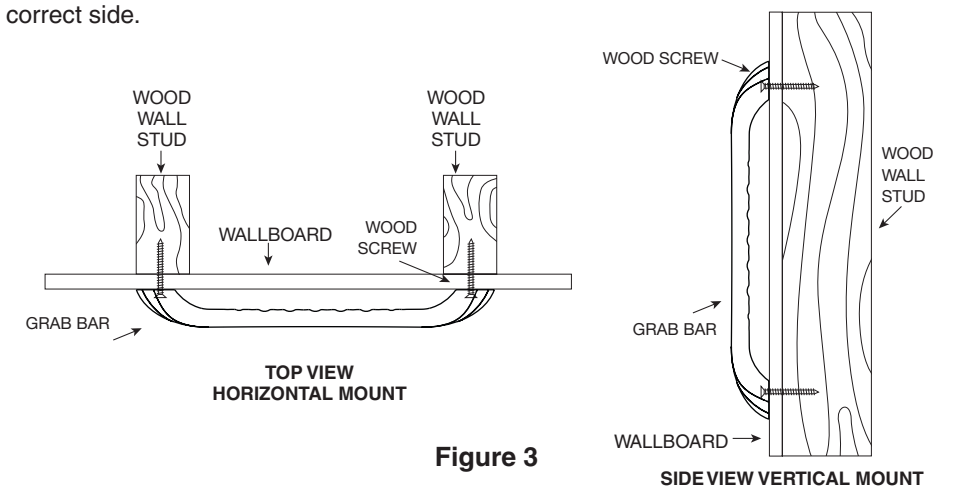

Figure 3
12. Insert the Lag screw and nylon washer provided into the end of the Grab Bar. Screw into wall and wall stud (see Figure 3).